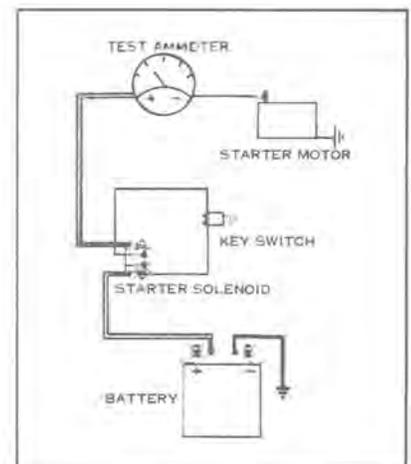

Figure 7-46
- a. Ground spark plug high tension leads so that engine can be cranked without firing. Place clamp-on DC ammeter capable of reading at least 200 amperes around starter motor lead (see Figure 7-46).